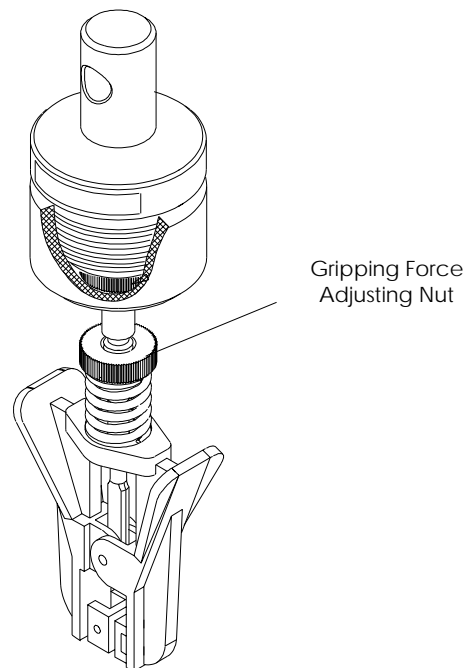

Figure 4-3. *Lever Action Fiber Grips Operation*
- (c) If the specimen is slipping in the grips, increase the gripping force by rotating the adjusting nut, adjacent to the spring, clockwise by one or two full turns (see Figure 4-3).